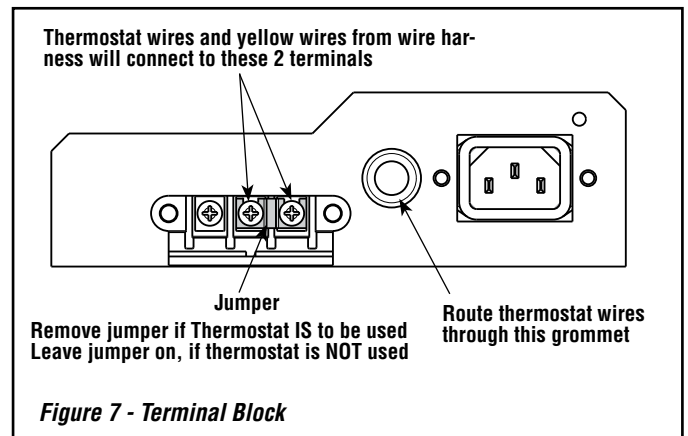

Figure 7 - Terminal Block
- Plug power cord connector into corresponding connector on the back of appliance (see **Figures 7 and 8** showing connector locations).
2. Locate the thermostat terminal block (see **Figures 7 and 8**).